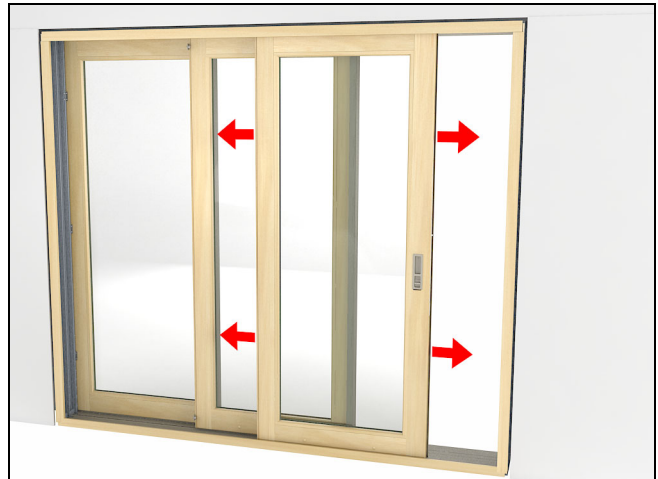

Figure 31
4. Operate the doors to ensure smooth movement and check positioning of the interlocks, head jamb, side jambs and lock engagement. Make any necessary adjustments at this time. See figure 31.